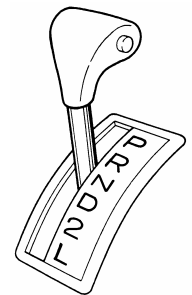

Fig.3-1
1. Set the shift lever to the position “P”, and idle the engine for ten to fifteen minutes to raise the oil temperature (50 to 80°C). (See Fig. 3-1.)